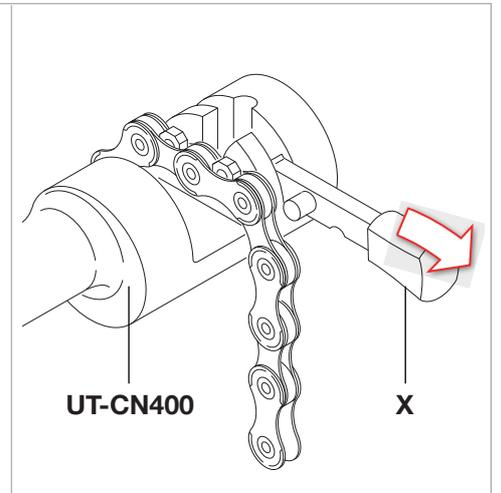

Fig.3
- Prepare the tool UT-CN400 by positioning the tongue in open mode (X - Fig. 3).
- fit the link to be opened in tool **UT-CN400** (Fig. 3) taking care to end with an internal link;